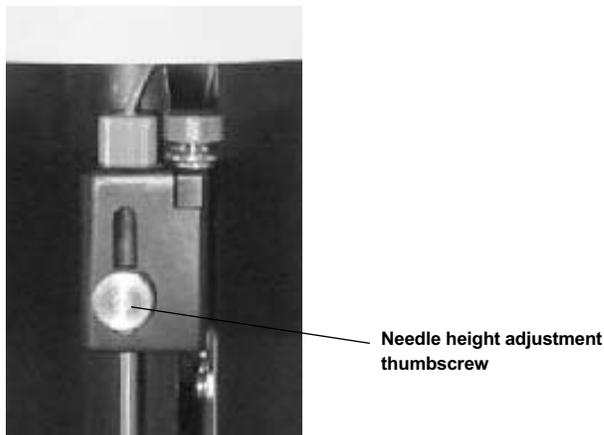

Fig. 16. Sample needle assembly.
10. With the needle in the down position, loosen the needle height adjustment thumbscrew at the top of the needle so that the needle housing can move up and down freely (Figure 16).